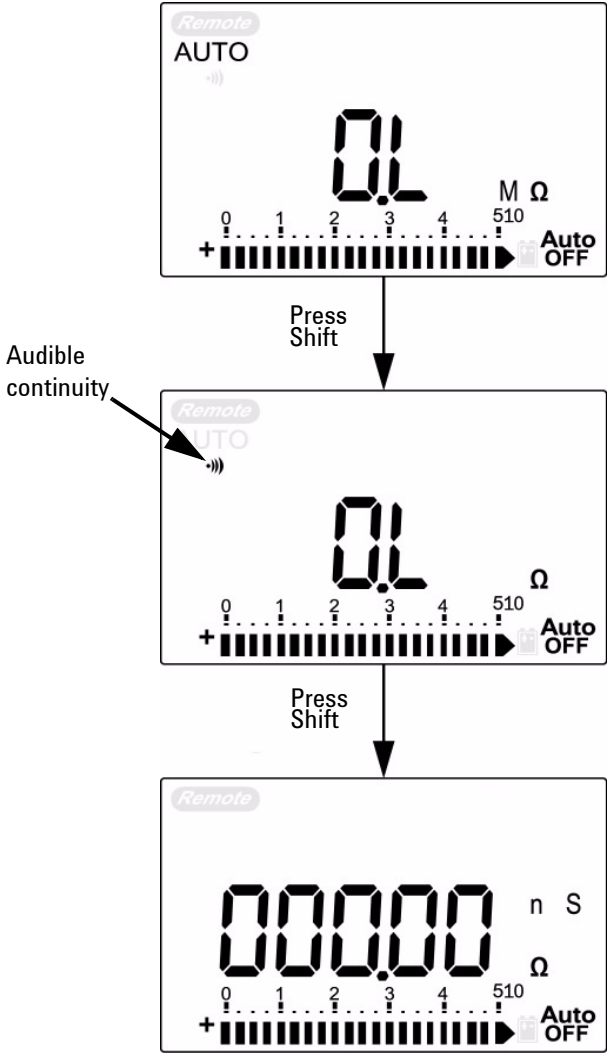

Figure 2-8 Audible continuity, conductance and resistance test.
- 4 Press  to scroll through audible continuity, conductance and resistance tests as shown in Figure 2-8.